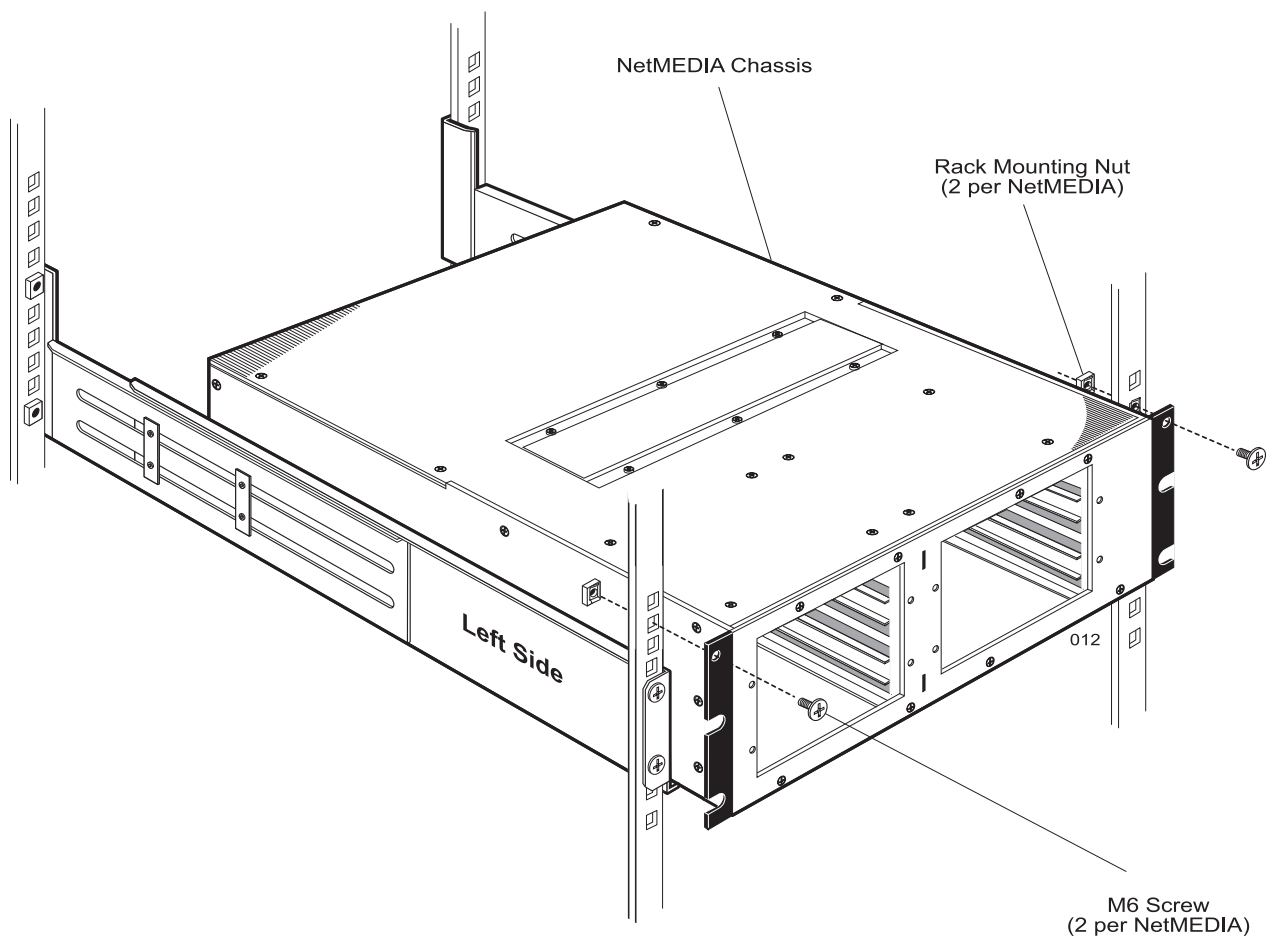

Figure 14: Installing and Securing the NetMEDIA to the Rails
2. Secure the NetMEDIA chassis with two (2) M6 screws and two (2) rack mounting nuts provided (Figure 14).